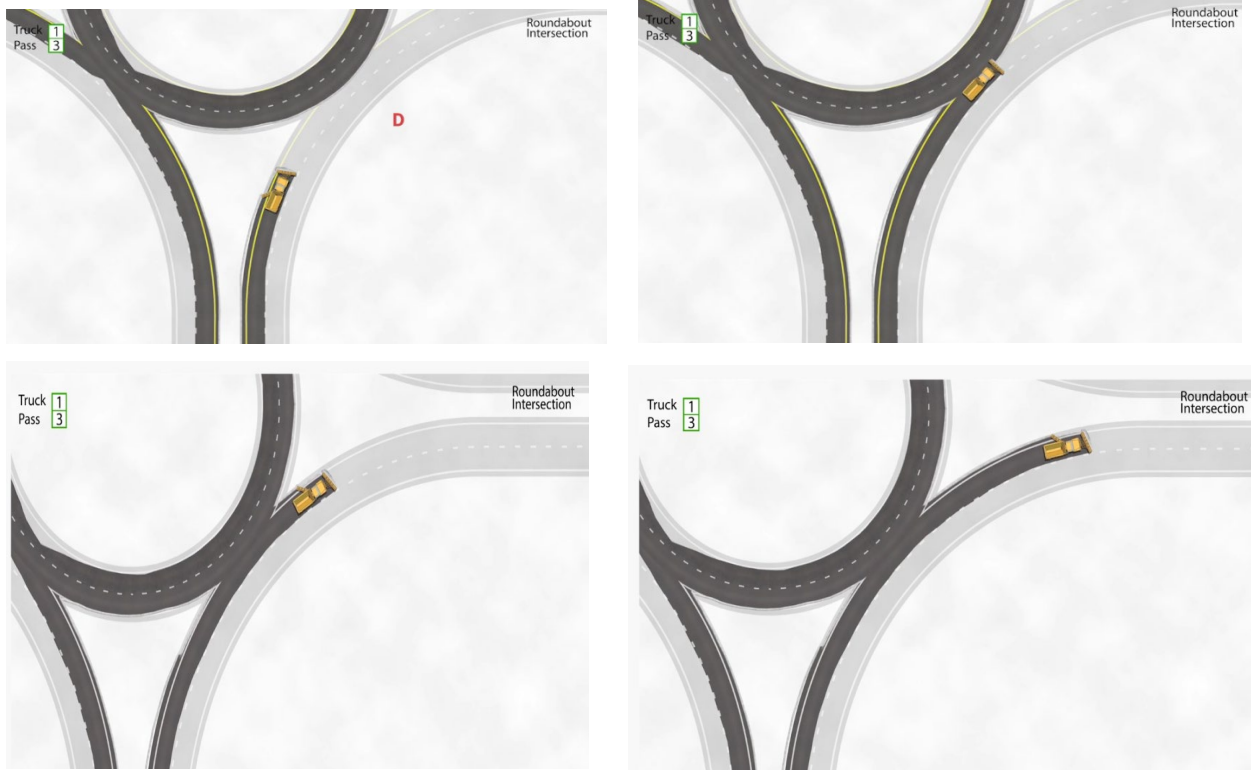

Figure 2.4: Truck maneuver at intersection points in Pass 1/3
Step 3:  After completing the snow plowing in the roundabout intersection, the truck exits the intersection at the same point where it enters the intersection and starts plowing snow from the roundabout intersection approaching legs. The truck re-angles the front plow to the left and stretches out the left wing. The Pass 1/3 continues plowing until the point where it makes a U-turn. It proceeds the opposite direction but does not re-enter the roundabout. Instead, it continues snow plowing on the inside lane by pushing snow to the left. Before entering the intersection, the truck “tucks in” the left-wing plow and angles the front plow to dump the snow. While passing through the intersection, “square” the front plow to avoid drag snow onto cleared outer lane of the roundabout. The left-wing plow is deployed after passing the intersections. The same maneuver applies to all four intersection points. The truck makes a U-turn and proceeds snow plowing on the inside lane by pushing snow to the left for all the remaining legs. Figure 2.4 illustrate the truck maneuver at intersection points in Pass 1/3.